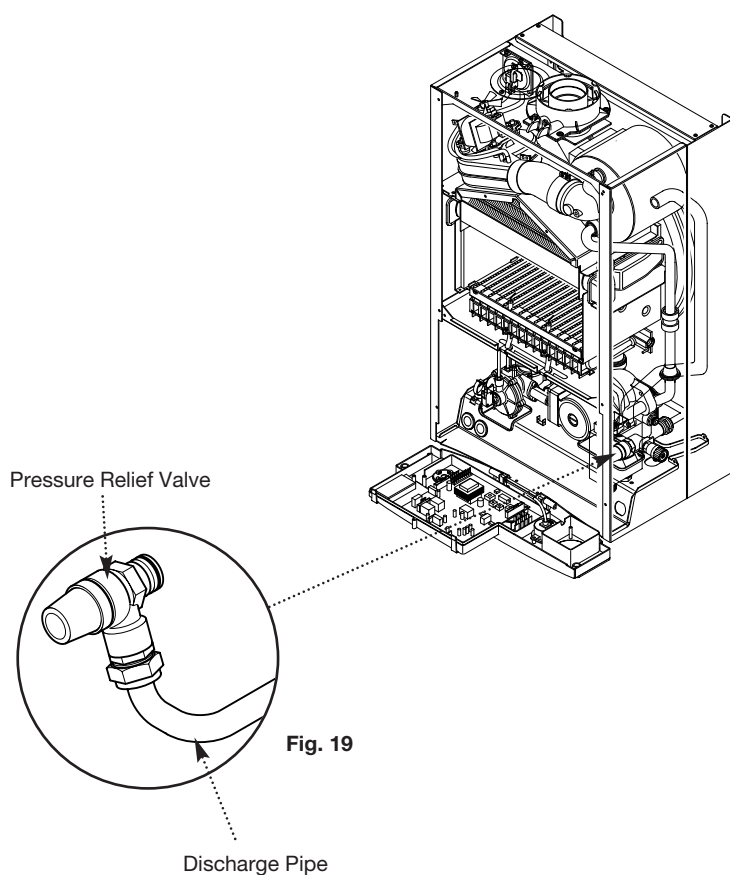

Fig. 19
8.5 Fitting the Pressure Relief Discharge Pipe (Fig. 19)